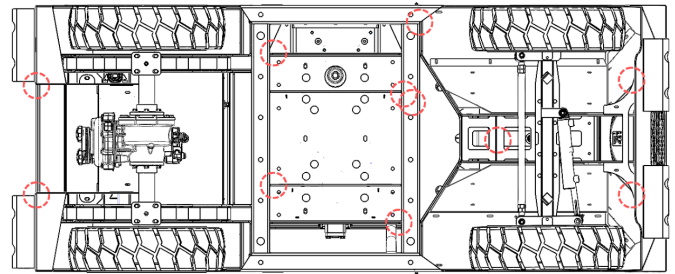

Figure 39. Weld Zones.
- Weld zones (see Figure 39: not all welds are shown).